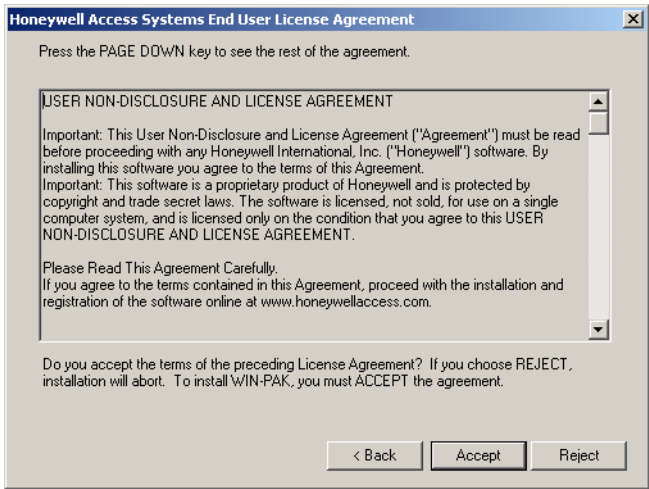

Figure 2-5 End User License Agreement
6. Click **Next**. Figure 2-5 appears.